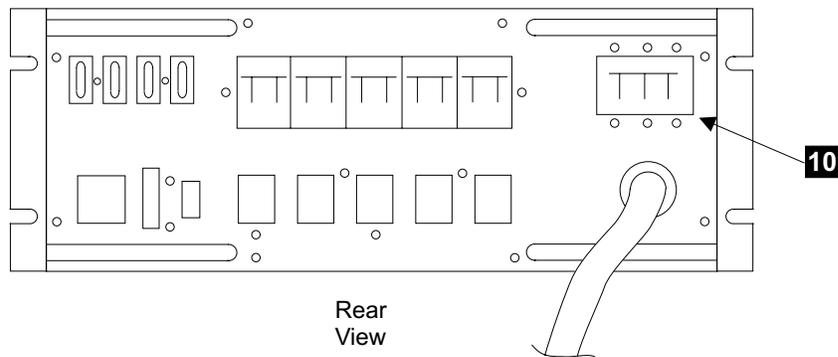

Figure 234. Primary Power Supply (S007626l)
10. Switch the System Power CB **10** [Figure 234] on the rear of each primary power supplies to On (up).